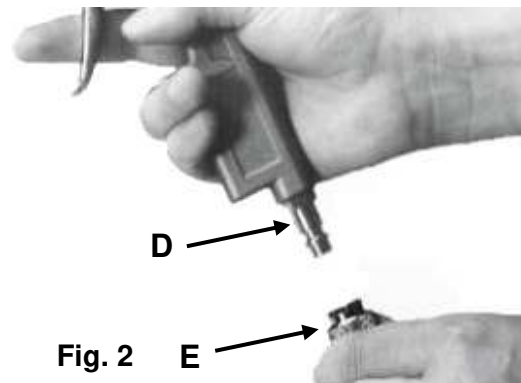

Fig. 2
3. Connect the nipple **D** of air blow gun to the coupling **E** of the other end of hose (fig.2).